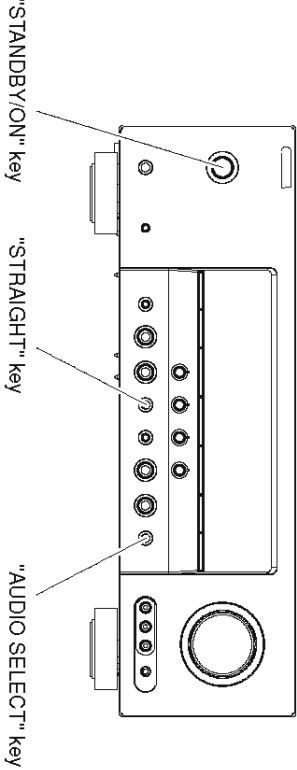

Fig. 8
2. Press the "STANDBY/ON" key while simultaneously pressing the "STRAIGHT" and "AUDIO SELECT" keys. (Fig. 8)